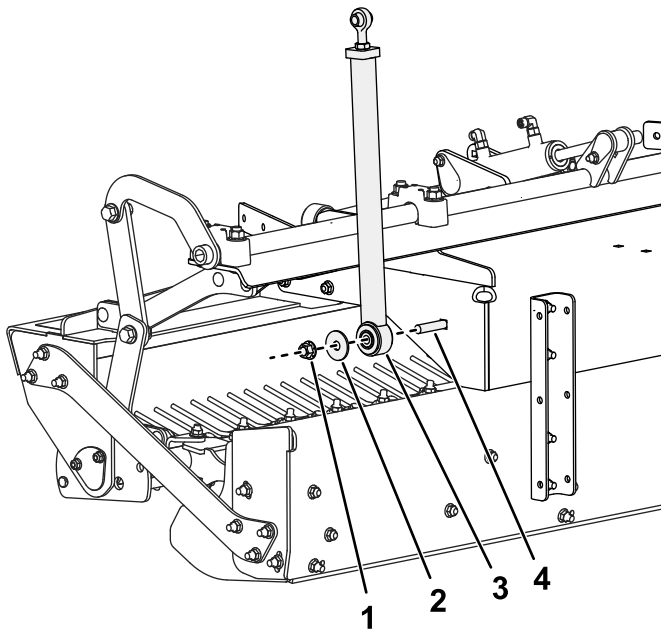

Figure 1
1. Install, but do not tighten, the lower portion of a lift link to the frame using a carriage bolt (1/2 x 2-1/2 inch), thrust washer, and locknut (Figure 1).